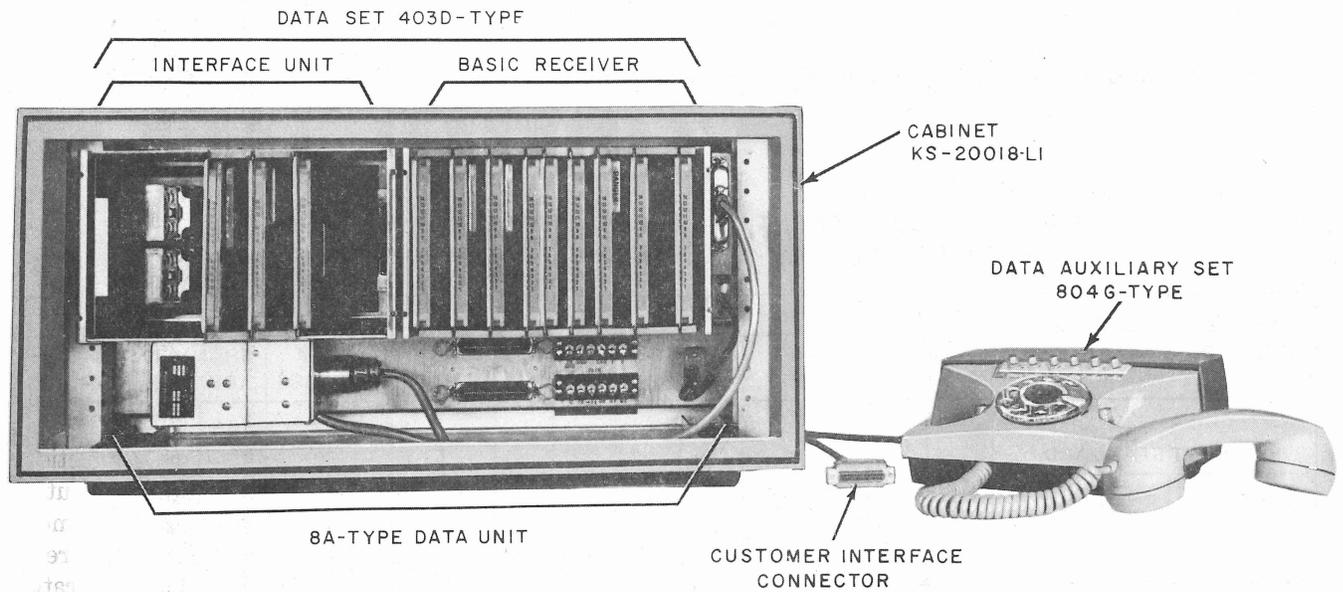

Fig. 2—Data Set 403E-Type With Front Cover Removed Showing Internal Components
**2.05** DS 403E-type contains an 8A-type data unit and a DS 403D-type as listed in Table A. They are mounted on 23-inch mountings in the KS-20018-L1 cabinet (Fig. 2).
set and normal telephone communications are provided by associated DAS 804G-type (Fig. 2).